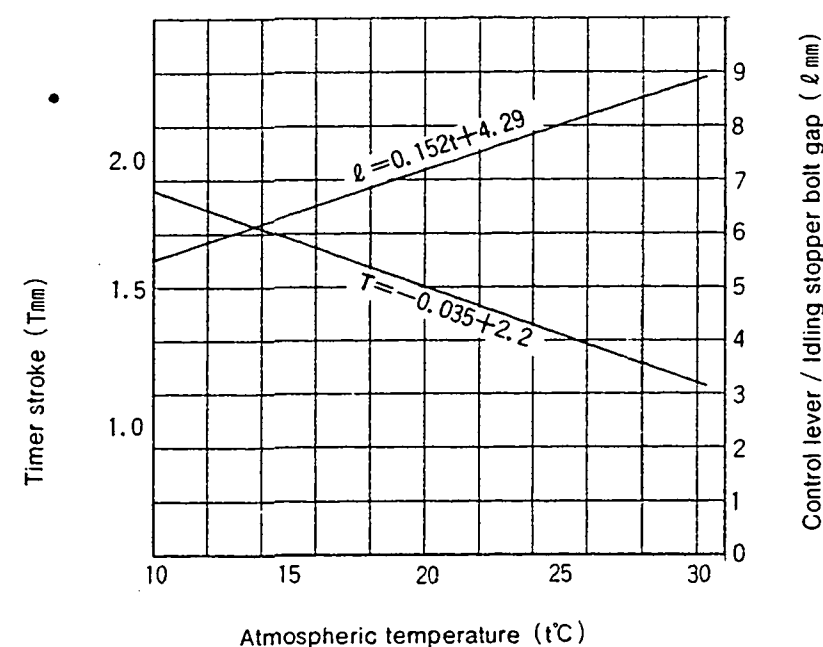

Fig. 2
- ① Using the graph (Fig 2) , determine the Timer Stroke according to the atmospheric temperature at the time of adjustment.
- ② Adjust using the Timer Stroke adjusting bolt so that the Timer Stroke corresponds to the value determined in note ① above.
- ② From Fig 2 determine the dimension of the gap between the idling lever pin and the control lever according to the atmospheric temperature at the time of adjustment.
- ③ Adjust using the fast idle adjusting screw so that the gap corresponds to the value determined in note 2 ) ② above.